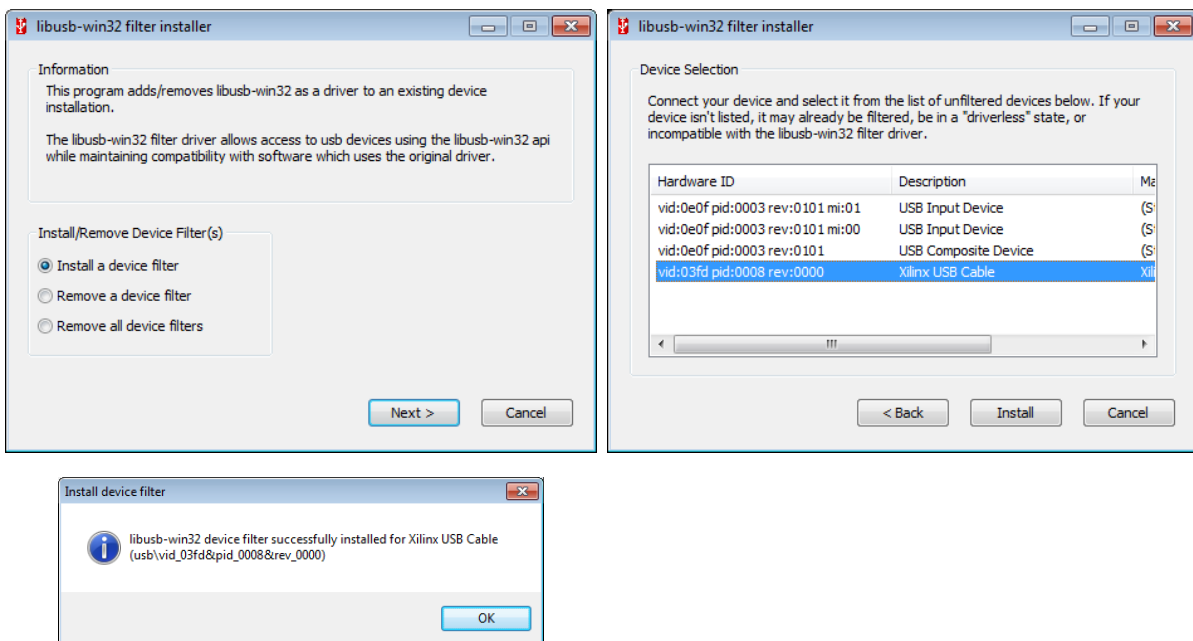

Figure 5.2.
4. At the first dialog, as seen in Figure 5.2, choose 'Install a device filter' and press **Next**.